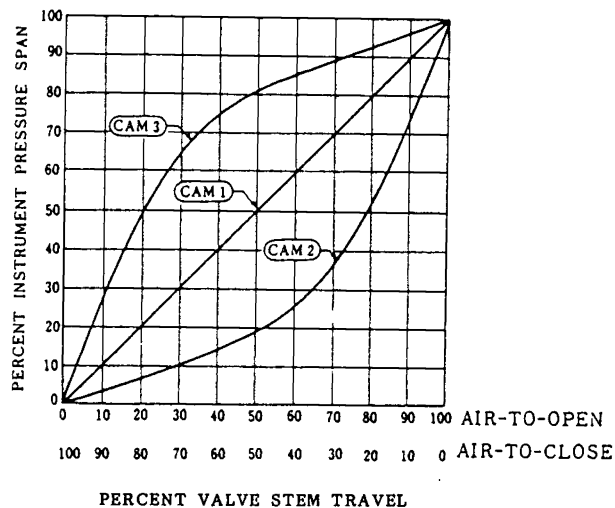

Figure 10. Cam Characteristics
- a) The positioner has 3 cams, each of which is characterized to establish a specific valve travel versus signal pressure relationship (Fig. 9). Fig. 10 shows the family of flow characteristic curves combining if cams and linear characteristic valve plug.